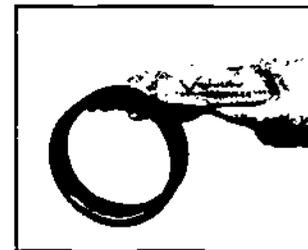

Figure 13-10. Checking Gasket and Lubricating
*Step 2:* Check the gasket supplied to be certain it is suited for the intended service. The color code identifies the gasket grade. Apply a thin coat of Victaulic lubricant, or silicone lubricant, to the gasket lips and outside of the gasket (Figure 13-10).